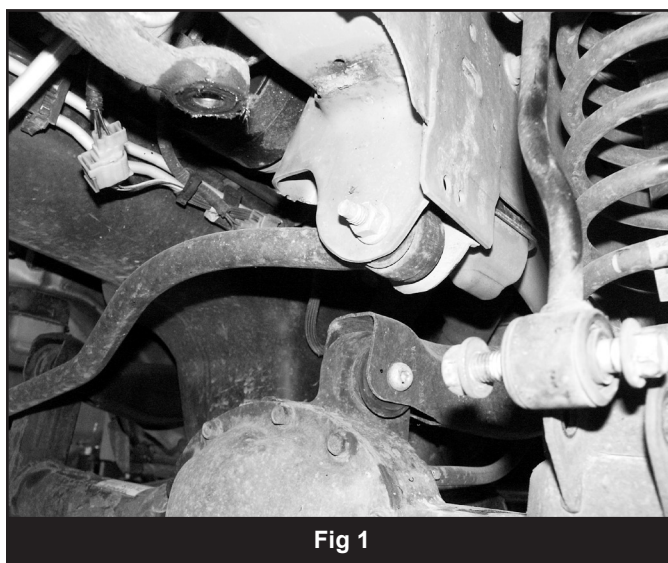

Fig 1
4. Support the front axle with a hydraulic jack and disconnect the front track bar from the driver's side frame mount (Fig 1). Retain hardware.